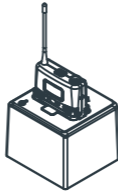
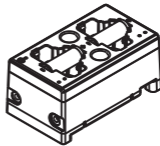

Fig. 35: MP-8: Single-docking Battery Charger.
Fig. 37: 18500
1. Transmitter(s) can be inserted into single-docking or dual-docking battery chargers (Fig. 35 & 36) or 18500 rechargeable battery can be recharged in dual-docking battery charger (Fig. 37).
2. MP-8 single-docking battery charger, Fig. 35.